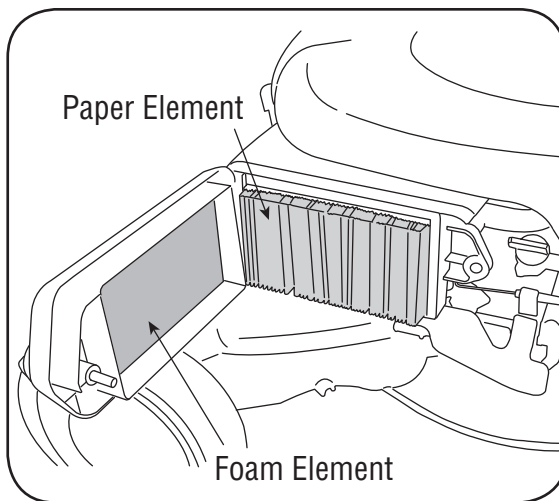

Figure 10-2
1. Remove the wing bolt and the air cleaner cover. Remove the elements and separate them. See Figure 10-2. Replace paper element when dirty or damaged. Replace foam element when damaged.